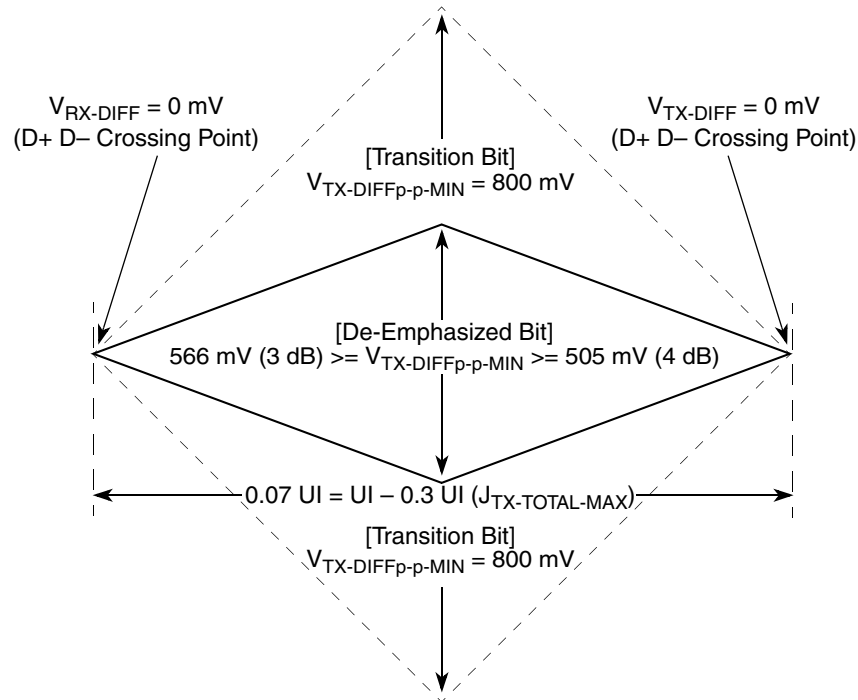
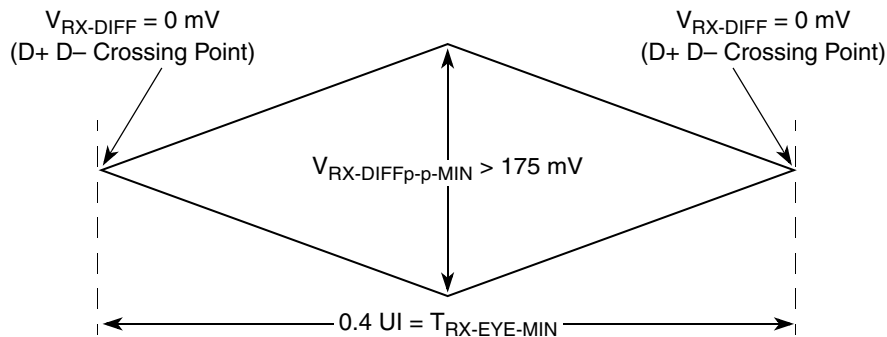
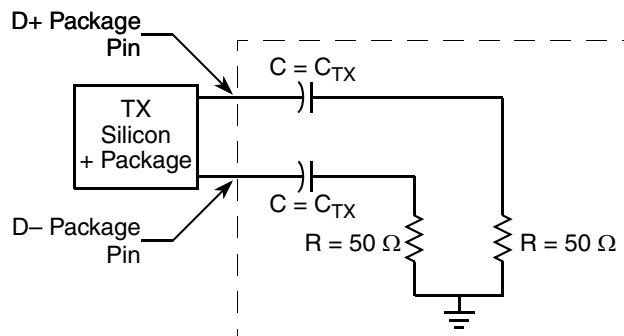

Figure 56. Minimum Transmitter Timing and Voltage Output Compliance Specifications
Figure 57. Minimum Receiver Eye Timing and Voltage Compliance Specification
Figure 58. Compliance Test/Measurement Load
2. Specified at the measurement point into a timing and voltage compliance test load as shown in Figure 58 and measured over any 250 consecutive TX UIs. (Also refer to the transmitter compliance eye diagram shown in Figure 56.)
4. The transmitter input impedance shall result in a differential return loss greater than or equal to 12 dB and a common mode return loss greater than or equal to 6 dB over a frequency range of 50 MHz to 1.25 GHz. This input impedance requirement applies to all valid input levels. The reference impedance for return loss measurements is 50 Ω to ground for both the D+ and D- line (that is, as measured by a vector network analyzer with 50- Ω probes—see Figure 58.) Note that the series capacitors C_{TX} is optional for the return loss measurement.
5. Measured between 20%–80% at transmitter package pins into a test load as shown in Figure 58 for both $V_{\text{TX-D+}}$ and $V_{\text{TX-D-}}$.
The TX eye diagram in Figure 56 is specified using the passive compliance/test measurement load (see Figure 58) in place of any real PCI Express interconnect +RX component.
- Specified at the measurement point and measured over any 250 consecutive UIs. The test load in Figure 58 should be used as the RX device when taking measurements (also refer to the receiver compliance eye diagram shown in Figure 57). If the clocks to the RX and TX are not derived from the same reference clock, the TX UI recovered from 3500 consecutive UI must be used as a reference for the eye diagram.
- The receiver input impedance shall result in a differential return loss greater than or equal to 15 dB with the D+ line biased to 300 mV and the D– line biased to –300 mV and a common mode return loss greater than or equal to 6 dB (no bias required) over a frequency range of 50 MHz to 1.25 GHz. This input impedance requirement applies to all valid input levels. The reference impedance for return loss measurements for is 50 Ω to ground for both the D+ and D– line (that is, as measured by a vector network analyzer with 50- Ω probes, see Figure 58). Note that the series capacitors C_{TX} is optional for the return loss measurement.
The RX eye diagram in Figure 57 is specified using the passive compliance/test measurement load (see Figure 58) in place of any real PCI Express RX component.
In general, the minimum receiver eye diagram measured with the compliance/test measurement load (see Figure 58) will be larger than the minimum receiver eye diagram measured over a range of systems at the input receiver of any real PCI Express component. The degraded eye diagram at the input receiver is due to traces internal to the package as well as silicon parasitic characteristics which cause the real PCI Express component to vary in impedance from the compliance/test measurement load. The input receiver eye diagram is implementation specific and is not specified. RX component designer should provide additional margin to adequately compensate for the degraded minimum receiver eye diagram (shown in Figure 57) expected at the input receiver based on some adequate combination of system simulations and the return loss measured looking into the RX package and silicon. The RX eye diagram must be aligned in time using the jitter median to locate the center of the eye diagram.
The reference impedance for return loss measurements is 50 Ω to ground for both the D+ and D– line (that is, as measured by a vector network analyzer with 50-Ω probes, see Figure 57). Note that the series capacitors, CTX, are optional for the return loss measurement.
The AC timing and voltage parameters must be verified at the measurement point, as specified within 0.2 inches of the package pins, into a test/measurement load shown in Figure 58.